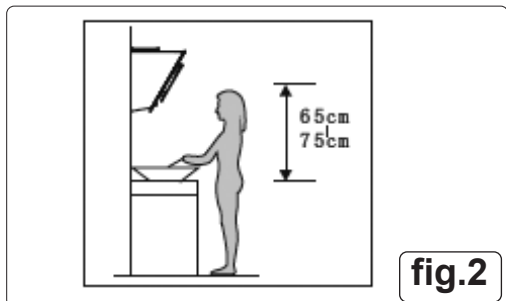

fig.2
- The cooker hood should be placed at a distance of 65~75cm above the cooking surface for best performance, fig.2.